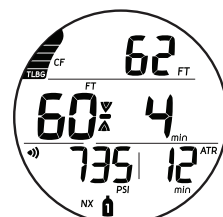

Fig. 107 - DV2 MAIN
- > Once within 10 FT (3 M) of and below the required Stop Depth (Fig. 107), the Stop icon (both Arrows with Stop Bar) will be displayed solid.